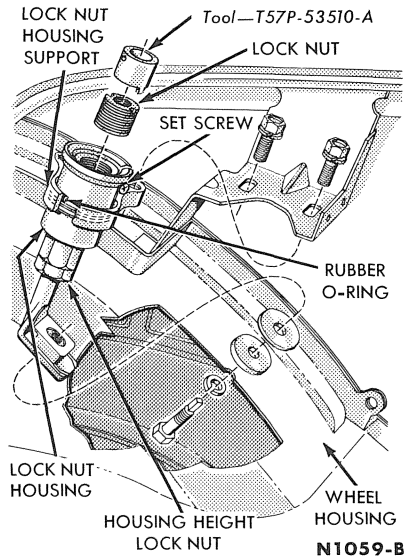

FIG. 3-19—Deck Lid Lock
2. From the underside of each wheelbase, remove each deck lid lock retaining screw (Fig 3-19).